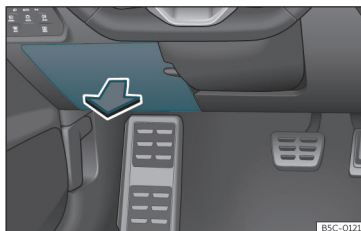

Fig. 47 On the driver's side dashboard: fuse box cover.
- *Open*: fold the cover down»» **Fig. 47**.